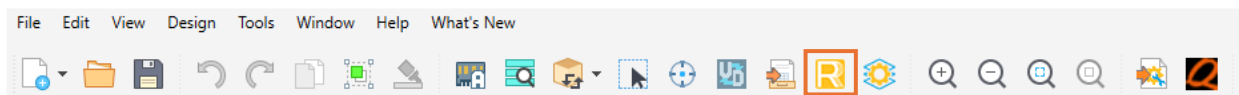

Figure 5.6. Lattice Radiant Icon in Lattice Propel Builder
- To synthesize the RTL files and generate the bitstream, click the Lattice Radiant icon in the Lattice Propel Builder as shown in Figure 5.6.